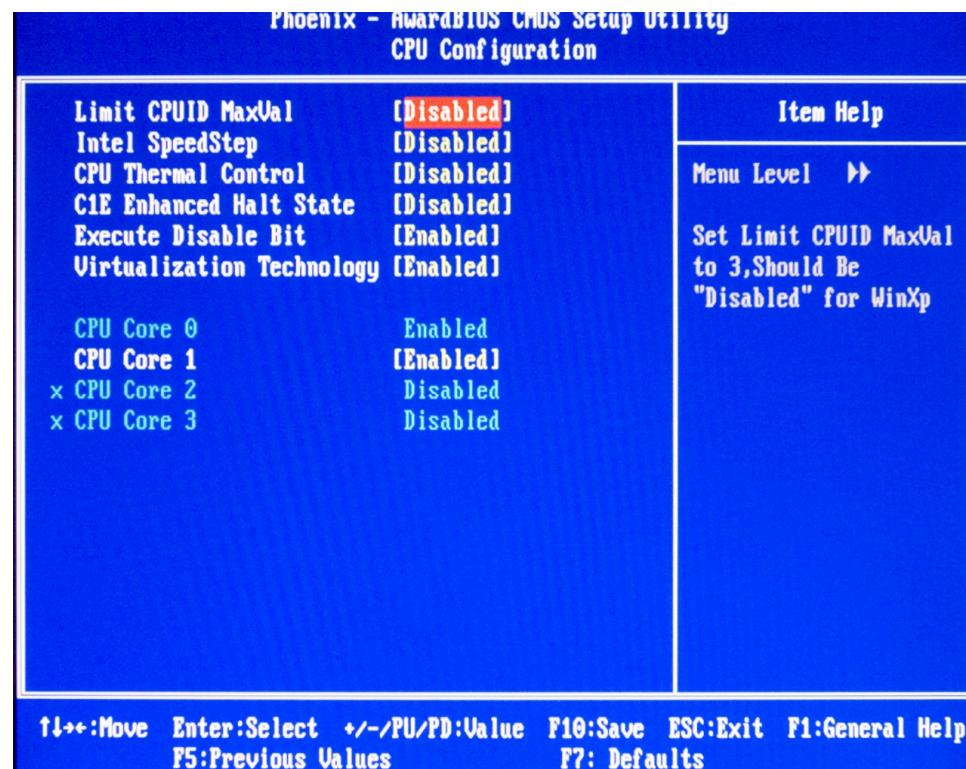

Figure 3. Disable Limiting Features
3. Set **CPU Thermal Control** to **Disable** as shown in Figure 3.
4. Set **C1E Enhanced Halt State** to **Disable** as shown in Figure 3.
5. Set **Intel Speedstep** to **Disable** as shown in Figure 3.